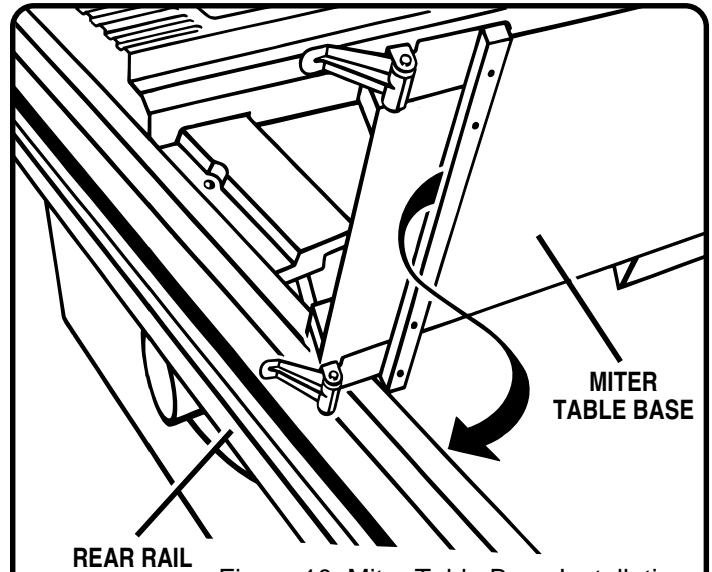

Figure 10: Miter Table Base Installation
1. Install the sliding miter table assembly over the front and rear rails. See Figure 10. Check that it slides easily on the rails. Push both front miter locking clamps down evenly on each side to secure. Repeat for both rear miter locking clamps.